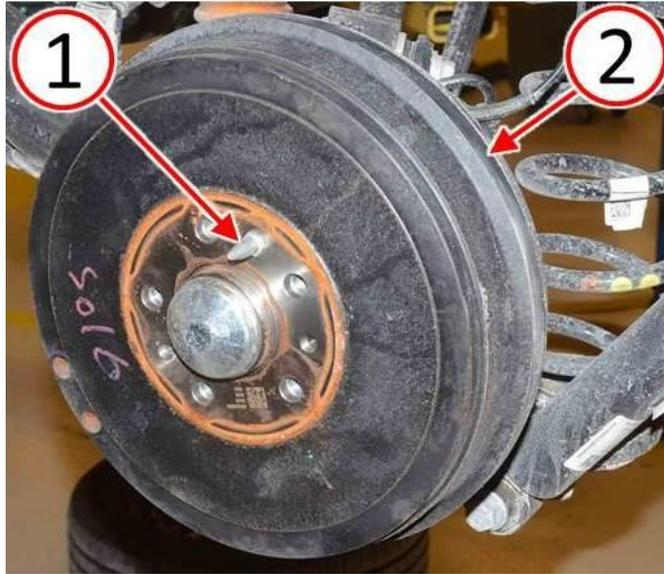

Fig. 4 Remove Rear Brake Drums
6. Remove the brake drum retaining pin (1), then remove the brake drum (2) (Fig. 4).